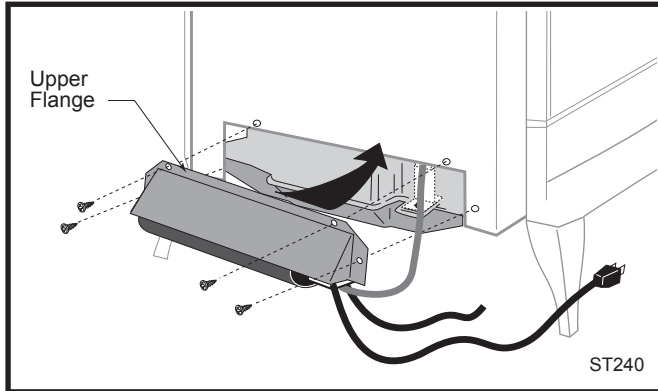

Fig. 12 Place upper flange behind lower edge of shroud.
1. Attach the fan to the rear shroud by engaging the upper flange of the fan skirt under the lower edge of the shroud and secure the skirt with the four screws and one star washer provided. (Figs. 12,13)